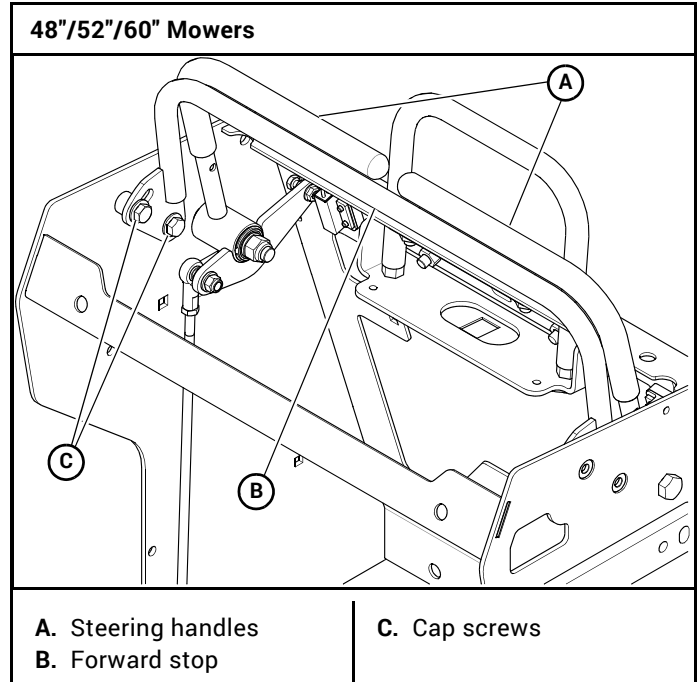

Figure 4-7
2. Pivot the forward stop back until it contacts both steering handles. Tighten the cap screws on the forward stop. Figure 4-7